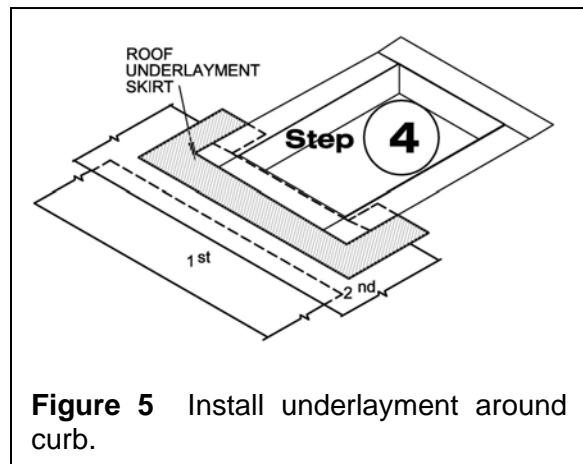

Figure 5 Install underlayment around curb.
Step 4. Install the roof underlayment in shingle fashion with the course below the skylight. Continue to lay out the underlayment around the sides and head (see Figure 5).